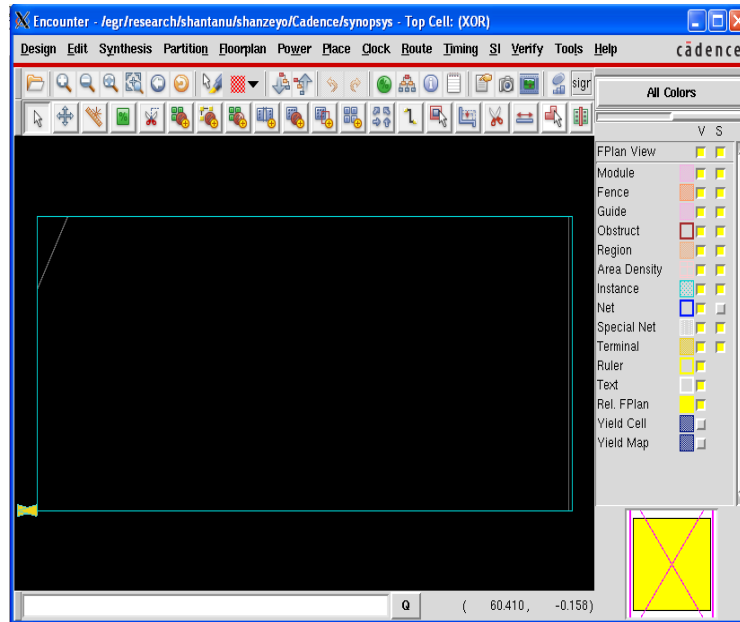

Fig 16: Encounter window for XOR gate
- The Encounter window for your cell will open as shown in Fig 16.